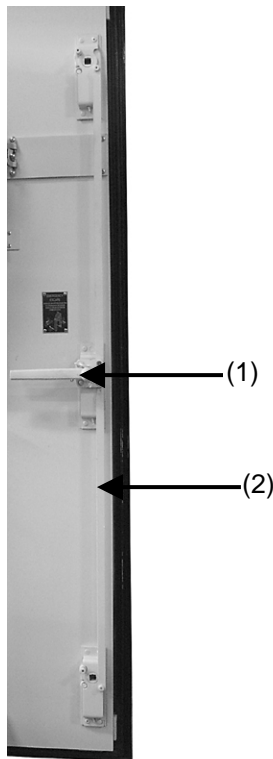

Figure 4-24. Handle and locking bar located on personnel door.
1. Using a 3/16 hex key, remove four bolts and spacers from handle (1) and locking bar (2) (Fig. 4-24).